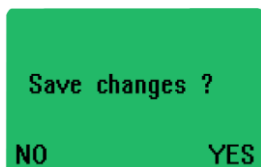

Figure 80: Save Changes
7. Press the *Back* soft key twice. *Save changes?* is displayed (see Figure 80).